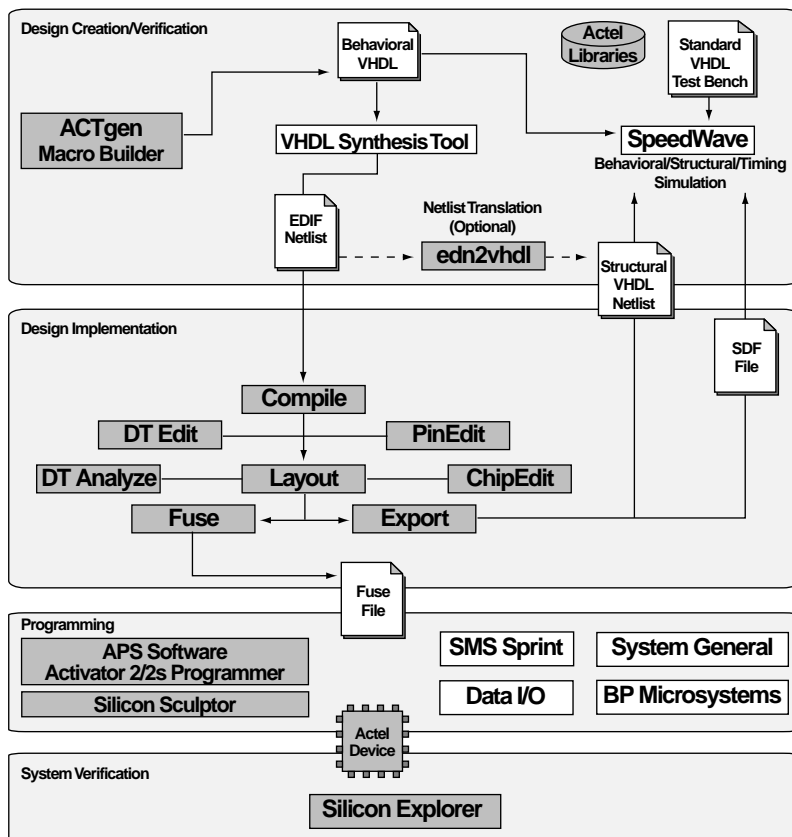

Figure 2-2. Actel-Viewlogic VHDL Synthesis-Based Design Flow
Figure 2-2 shows the VHDL synthesis-based design flow for an Actel device using the Powerview and Designer Series software1.
1. Actel-specific utilities/tools are denoted by the grey boxes in Figure 2-2.